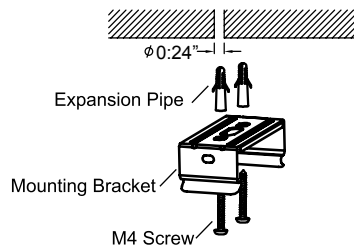

Figure 2
- Insert $\Phi 0.24''$ expansion pipes(4) in the ceiling or wall. Fix the Mounting Brackets (2) to ceiling or wall by M4 Screws (4). See Figure 2.